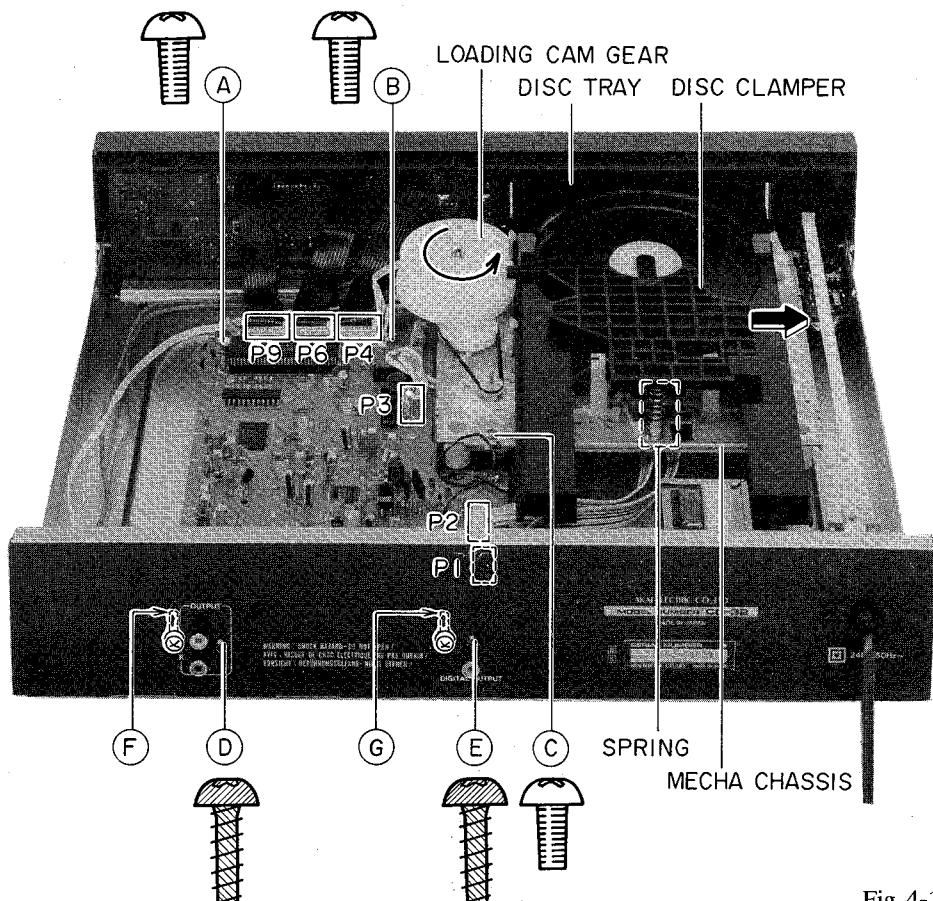

Fig. 4-1
(Refer to Fig. 4-1)
* Reassemble in reverse order. (Refer to Fig. 4-1)